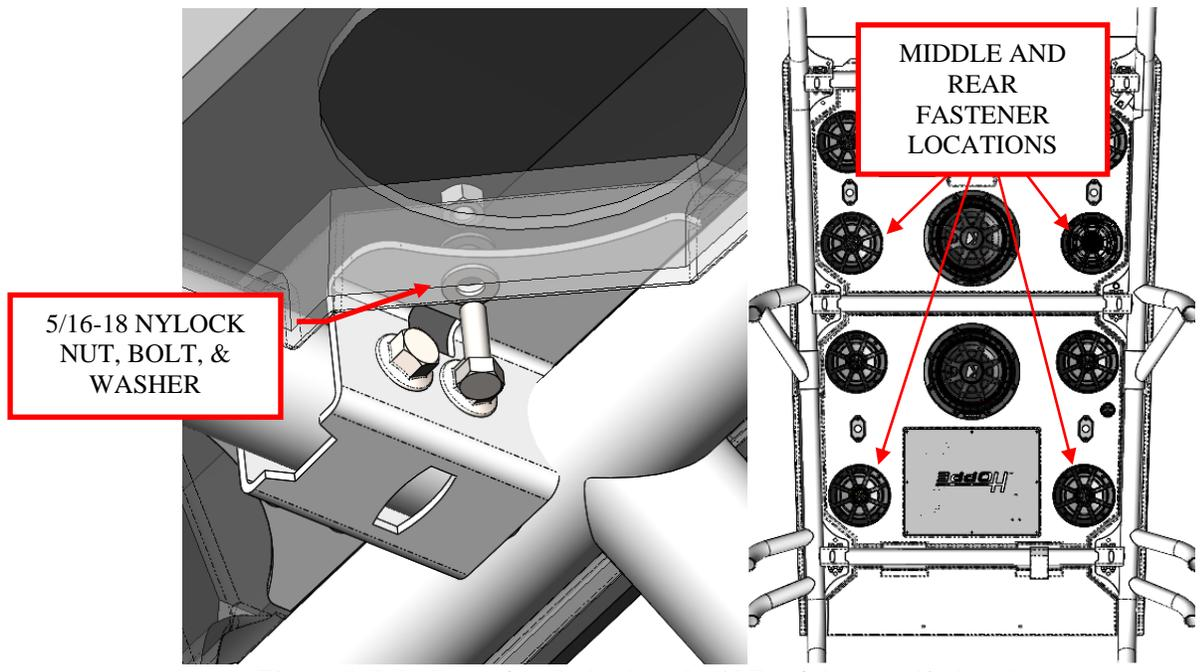

Figure 6: Bolt the roof to the back and middle of the cage (4 places).
4. On the middle and rear of the cage (4 places), reach through each speaker opening, and bolt the top to the cage using the supplied 5/16-18 nylock nut, bolt, and washer. Torque to 15 ft.*lbs. The bolt extends through the inner skin of the roof and the metal brackets on the cage. See Figure 6.